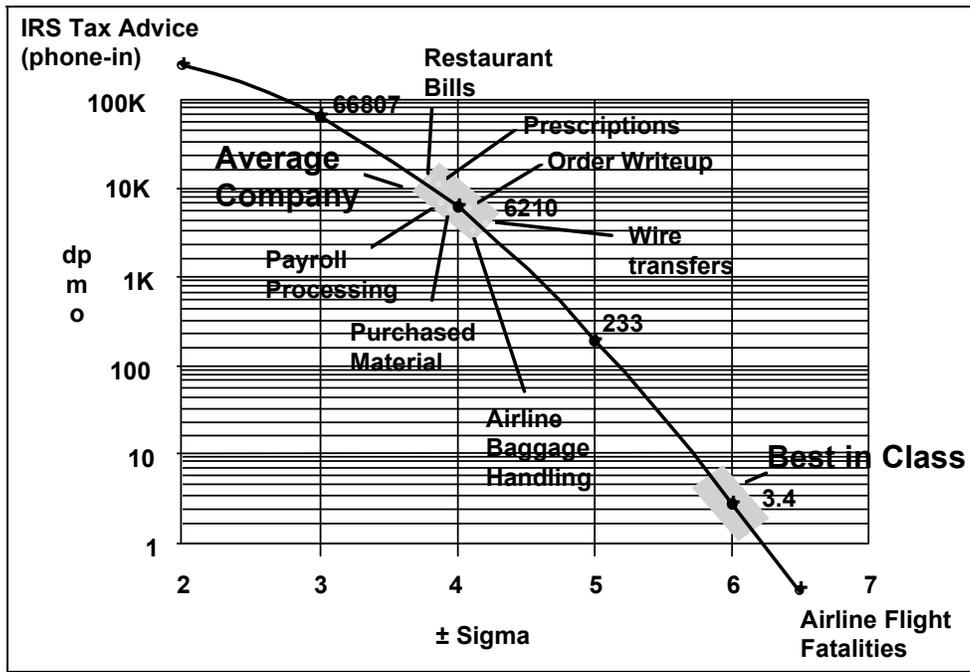

Figure 12 - Deriving Sigma Level
*Do all processes need to operate at six sigma?* Not necessarily. Take a look at a comparison of some of today's common processes in Figure 12 on the next page.